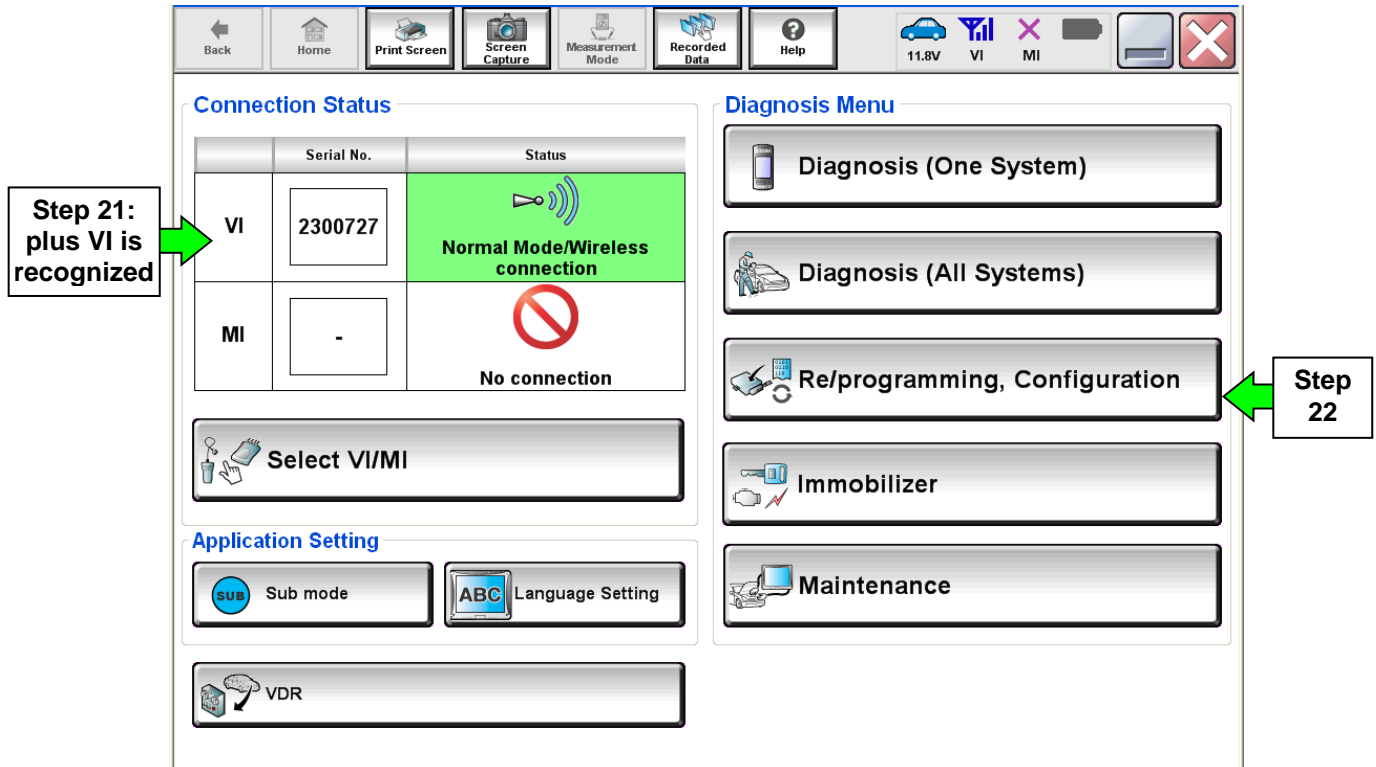

Figure 9
19. Confirm C-III plus is on the Home Screen (see Figure 9).